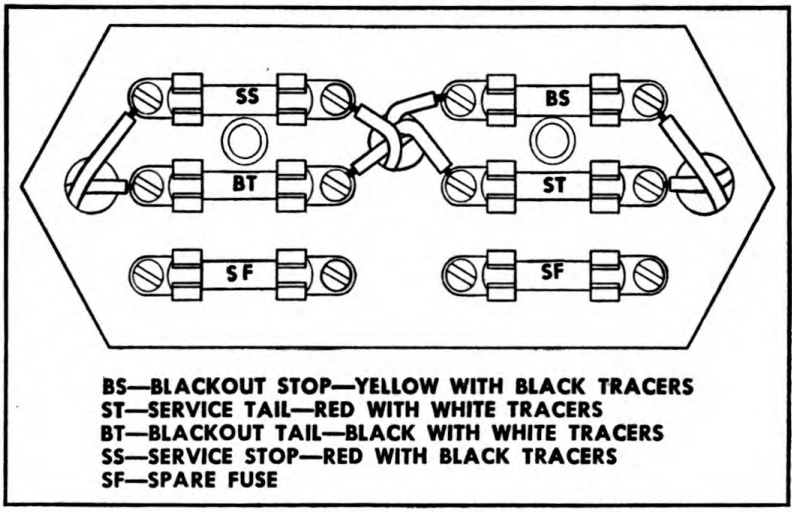

FIGURE 57. FUSE PANEL—DOLLY.
b. Figures 57 and 58 illustrate fuse panel diagrams, with each wire marked as to color and purpose.